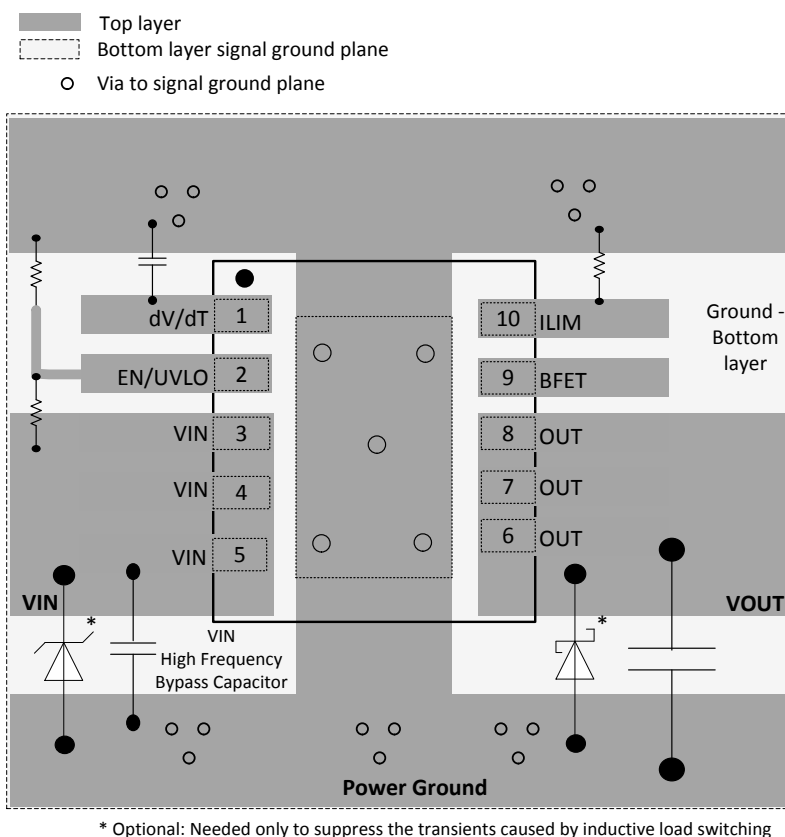

Figure 47. Layout Example
- The optimum placement of decoupling capacitor is closest to the IN and GND terminals of the device. Care must be taken to minimize the loop area formed by the bypass-capacitor connection, the IN terminal, and the GND terminal of the IC. See Figure 47 for a PCB layout example.